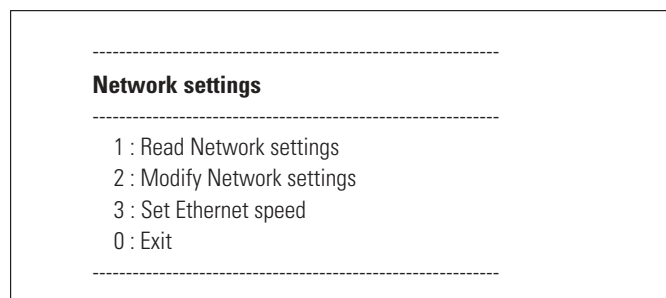

Figure 9. Network Settings Menu
1. From the main menu, type **2** and press **Enter**. The Network Settings menu displays (see Figure 9).